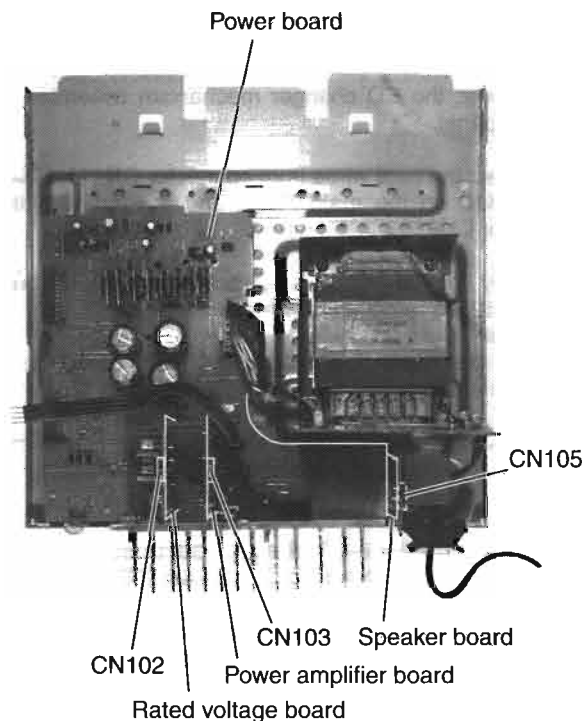

Fig.24
■ **Removing the Speaker Board** (See Fig.24)